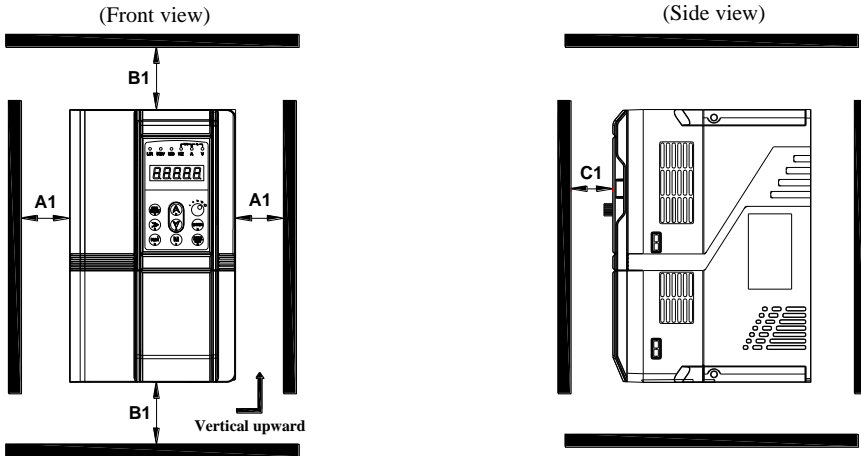

Fig. 3-1 Single inverter installation
- As shown in **Fig.3-1**, the installation space needs to ensure that the frequency inverter has sufficient heat sink space. Please consider the heat dissipation of other devices in the cabinet when reserve the space.